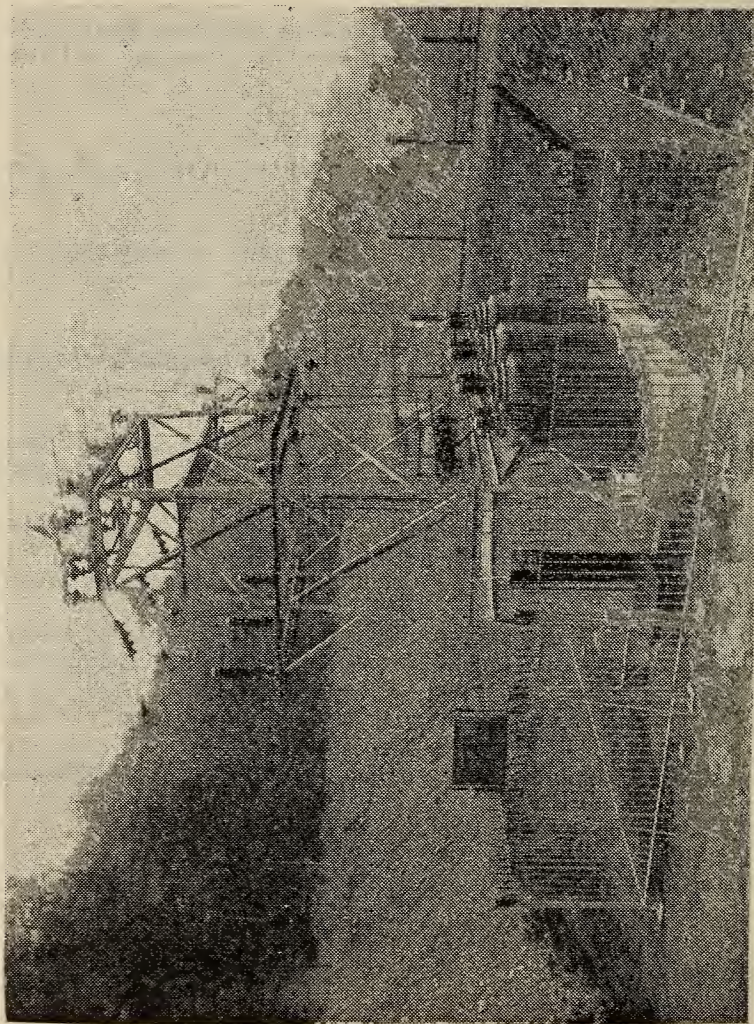

FIGURE 61.—High-tension lines and equipment should be fenced in effectively or otherwise made inaccessible to unauthorized persons.
A. By adequate fencing or guarding and by heavy rubber mats or insulated platforms. (See fig. 61.)